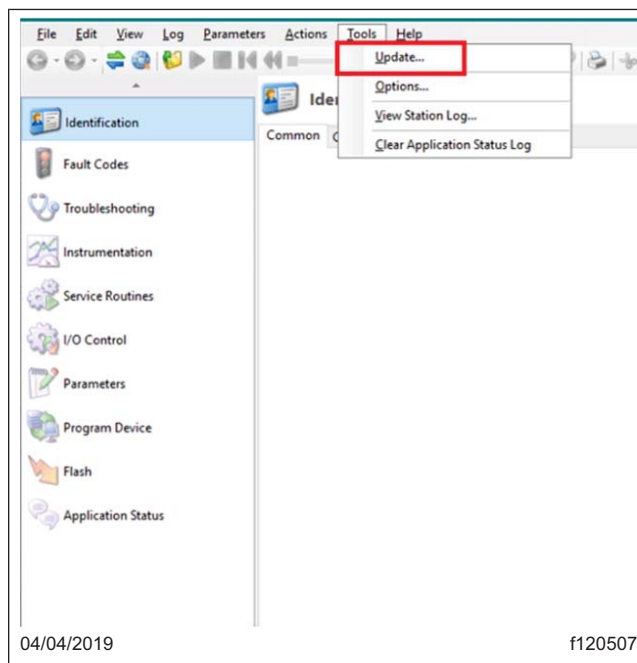

Fig. 1, Updating DiagnosticLink to the Latest Version
- Connect the vehicle to DiagnosticLink. Make sure that DiagnosticLink is updated to the latest version, 8.09sp2. To update DiagnosticLink, select "Update" from the dropdown menu under "Tools." See Fig. 1.